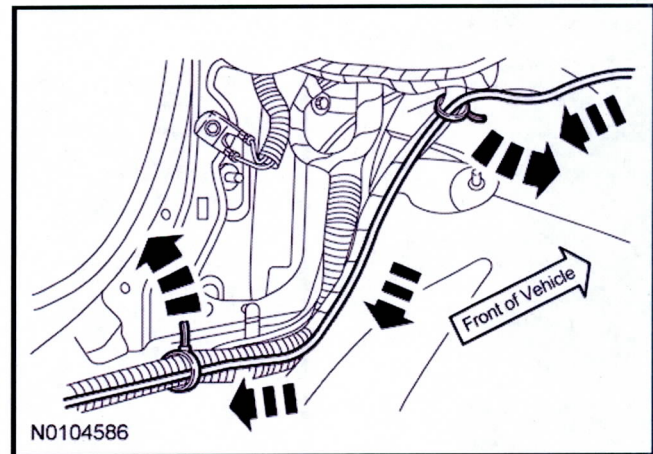

Figure 9 - Article 13-1-5
34. Use supplied tie straps to secure power cable to the interior vehicle harness in the front lower cowl area. (Figure 9)